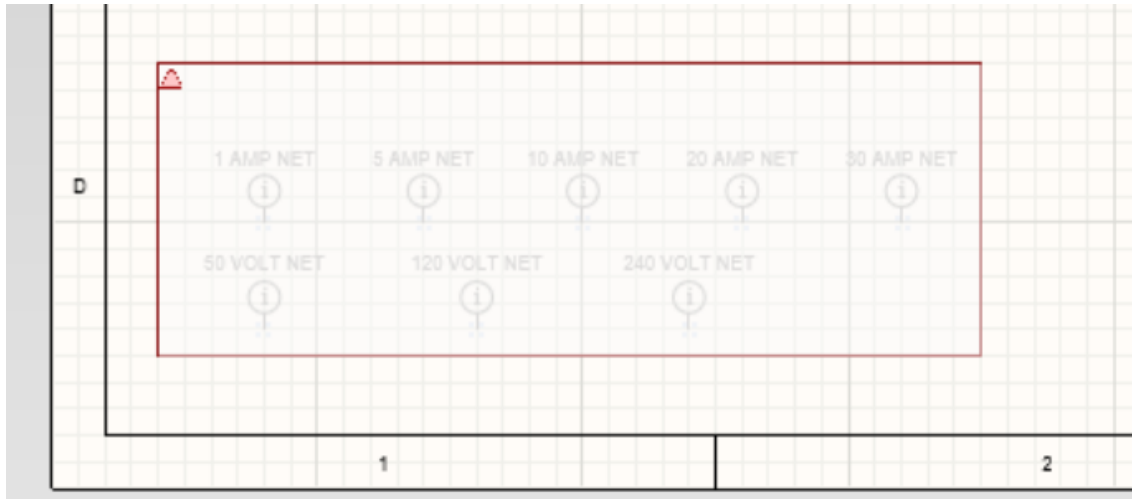

Figure 3. Directives Enclosed by Compile Mask
21. Note the Directives in the lower left corner of the schematic that are covered by a Compile Mask, as shown in Figure 3. This is done to remove them from the validation process (Netlist).